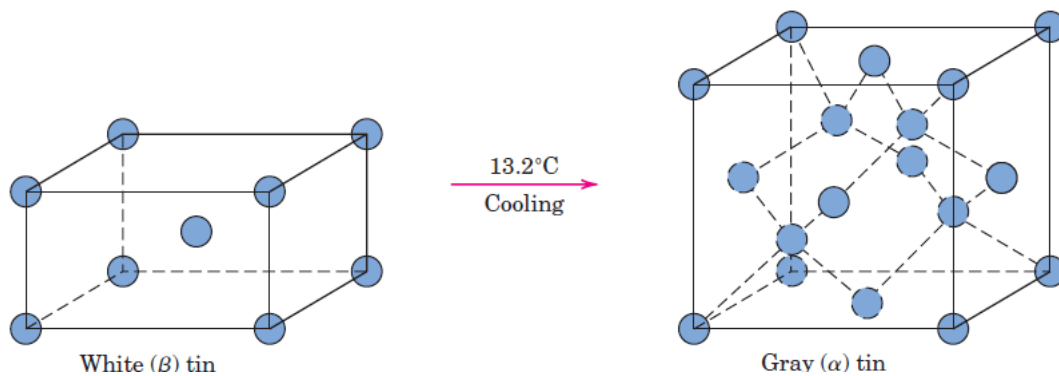

Figure 2: White (or β) tin at room temperature, transforms, at 13.2°C , to gray (or α) tin 13.2°C
- (c). White (or β) tin, having a body-centered cubic crystal structure at room temperature, transforms at 13.2°C, to gray (or α) tin, which has a diamond crystal structure (Figure 2). This transformation is represented schematically as follows: